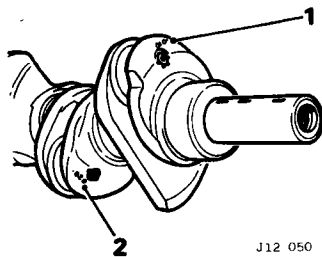

Fig. 65
**a. Crankshaft.** Regrinding of the crankshaft is generally recommended when wear or ovality in excess of 0.08 mm (0.003 in) is found. Grinding may be undertaken to a limit of 0.51 mm (0.020 in). Grinding beyond the limit of 0.51 mm (0.020 in) is not recommended and in such circumstances a new crankshaft must be obtained. Oversizes of journals are stamped in the adjacent web at the forward end of the crankshaft. 1.—Main journal. 2.—Crankpin. See Fig. 65